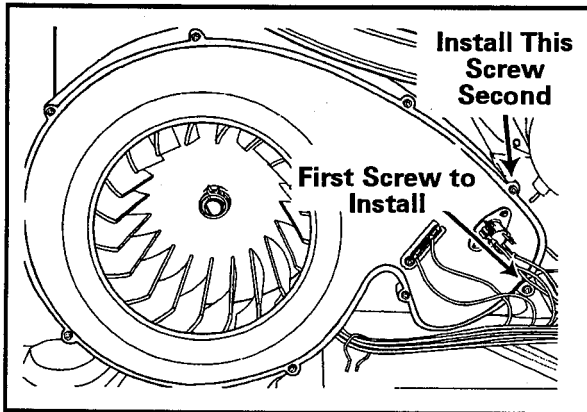

Figure 7-4
3. Install the first screw closest to the exhaust duct (right most screw), (See *Figure 7-4*).